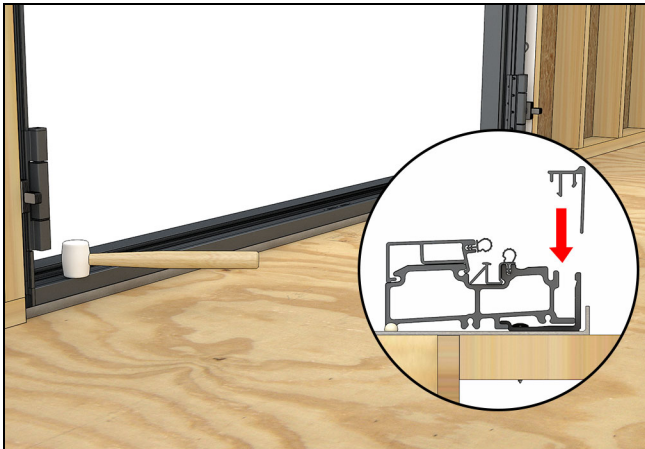

Figure 47
12. Install the interior sill cover. The cover fits over the vertical leg of the sill support and snaps onto the door sill. Use a rubber mallet to seat the cover on the sill. See Figure 47.